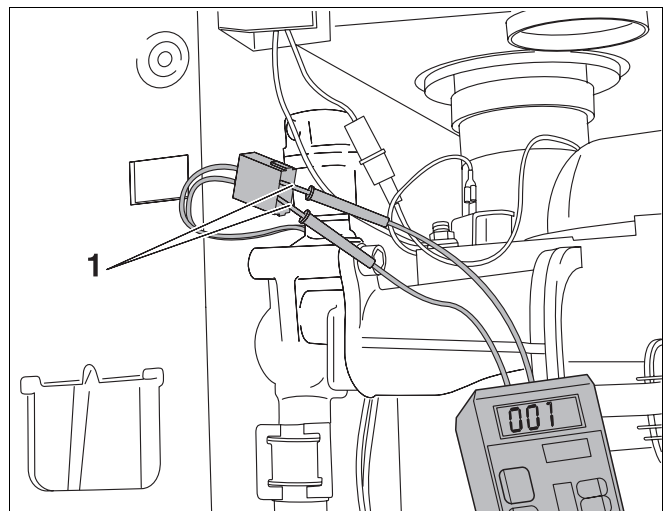

Fig. 58 Buderus 600 - 11R / 19R / 24R: checking the safety sensor
- Measure resistance of sensor (fig. 58, item 1).